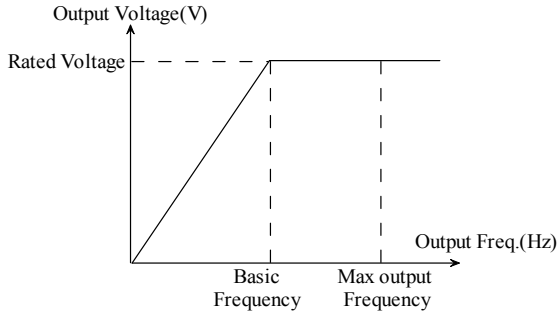

Fig. 5-0-1 V/F characteristic diagram
- ◆ Basic Frequency F_{BASE} : Basic operating frequency is the Min output frequency when the output voltage of inverter is equal to rated voltage U_N . Usually, the motor rated frequency can be treated as basic frequency. The changing range of basic frequency F_{BASE} of this series inverter is from 0.10 to 400.0Hz. Normally, F_{BASE} is selected based on motor rated frequency. In some special state, F_{BASE} can be set according to application needed. But at this time, the V/F characteristics of the load and its contributed need must be considered. As shown in Fig. 5-0-1